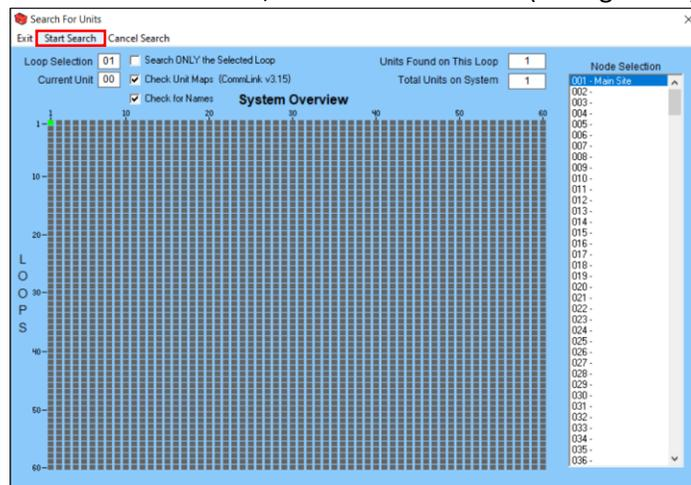

Figure 29: Initiating The Search
- A screen will pop up titled “Search For Units”, select “Start Search” (see figure 29).